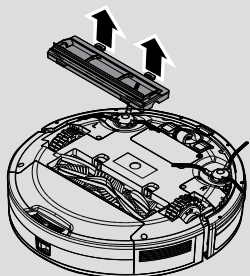

Fig. 12
2. Press the clips on the sole plate remove the agitator cover. **[Fig. 12]**